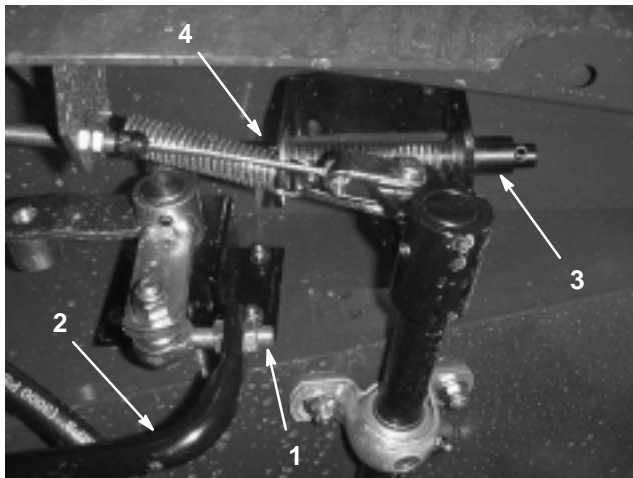

Figure 69
3. Loosen the jam nuts on the rod end and adjust the traction rod length (Fig. 69) so that the pedal contacts the pedal stop slightly before the pump lever reaches full stroke. Secure the jam nuts.